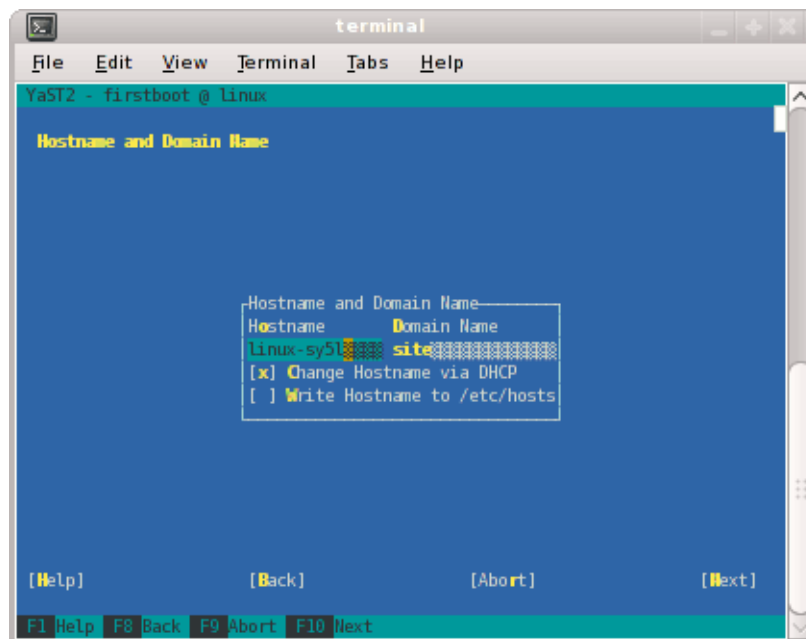

Figure 2-10 Hostname and Domain Name Screen
3. From the **Hostname and Domain Name** screen, as shown in Figure 2-10 on page 45, enter the hostname and domain name of your system in the appropriate fields. Make sure that **Change Hostname via DHCP** is **not** selected (no **x** should appear in the box). Click the **Next** button to continue.